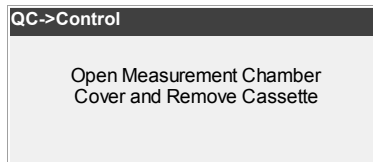

Fig. 4-28 Open SMC Cover and Remove Cassette
17. Open the sample chamber cover and remove the cassette (Fig. 4-28).